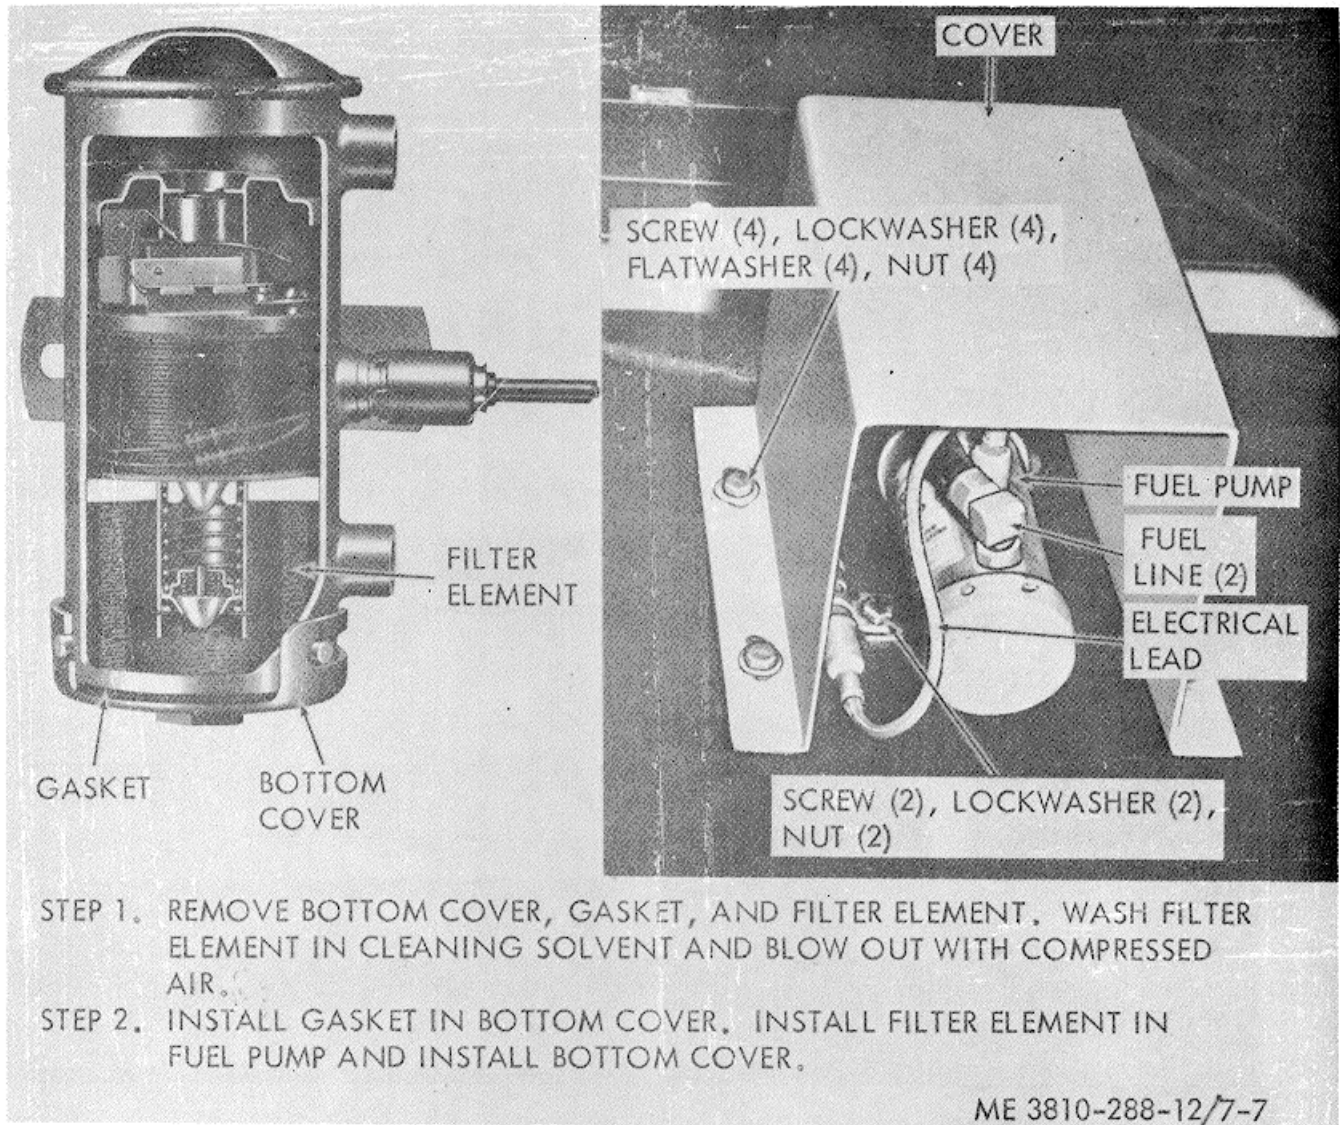

Figure 7-7. Fuel pump filter service. And fuel pump removal and replacement.
c. Fuel Pump Filter Service. The fuel pump filter should be serviced when the sediment bowl is serviced. Refer to figure 7-7 and service the fuel pump filter.